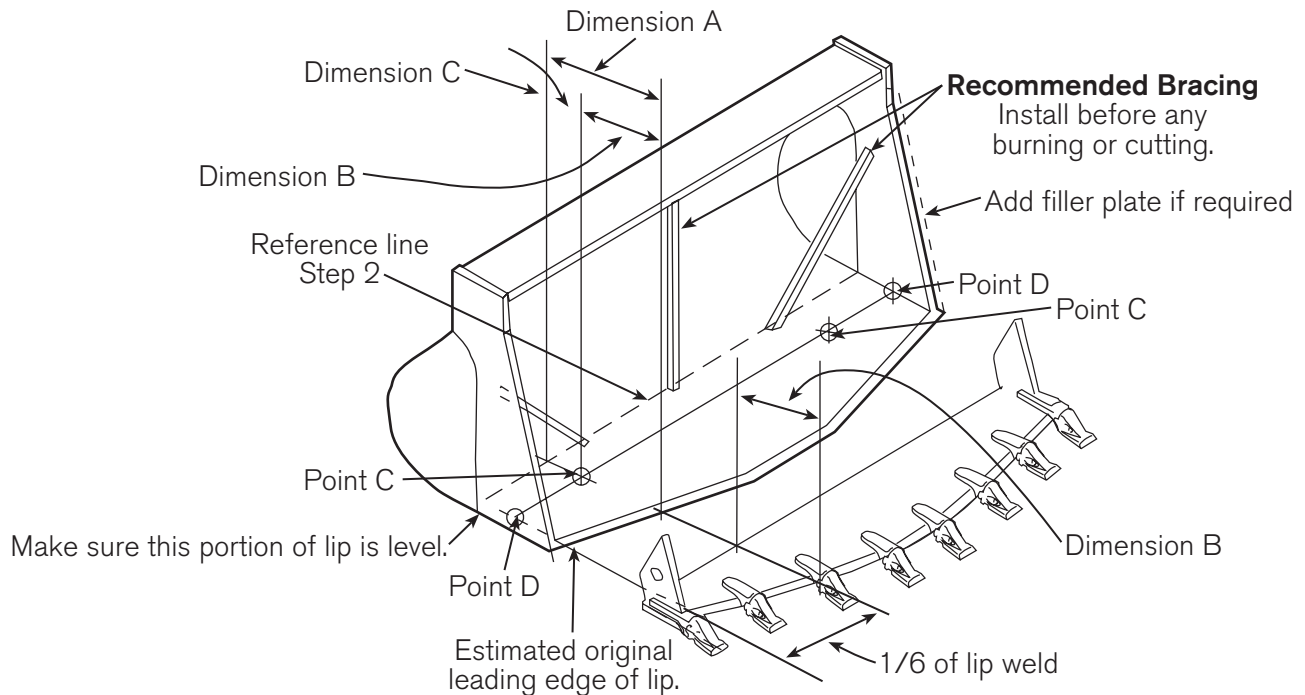

Figure 1 Locating Loadmaster Lip profile on bucket floor.
Locating the Loadmaster Lip profile onto the bucket floor, Figure 1.
1. Position the bucket on a flat surface so the lip is level. Block the bucket so it will not move during installation. Install bracing as shown in Figures 1 and 2.